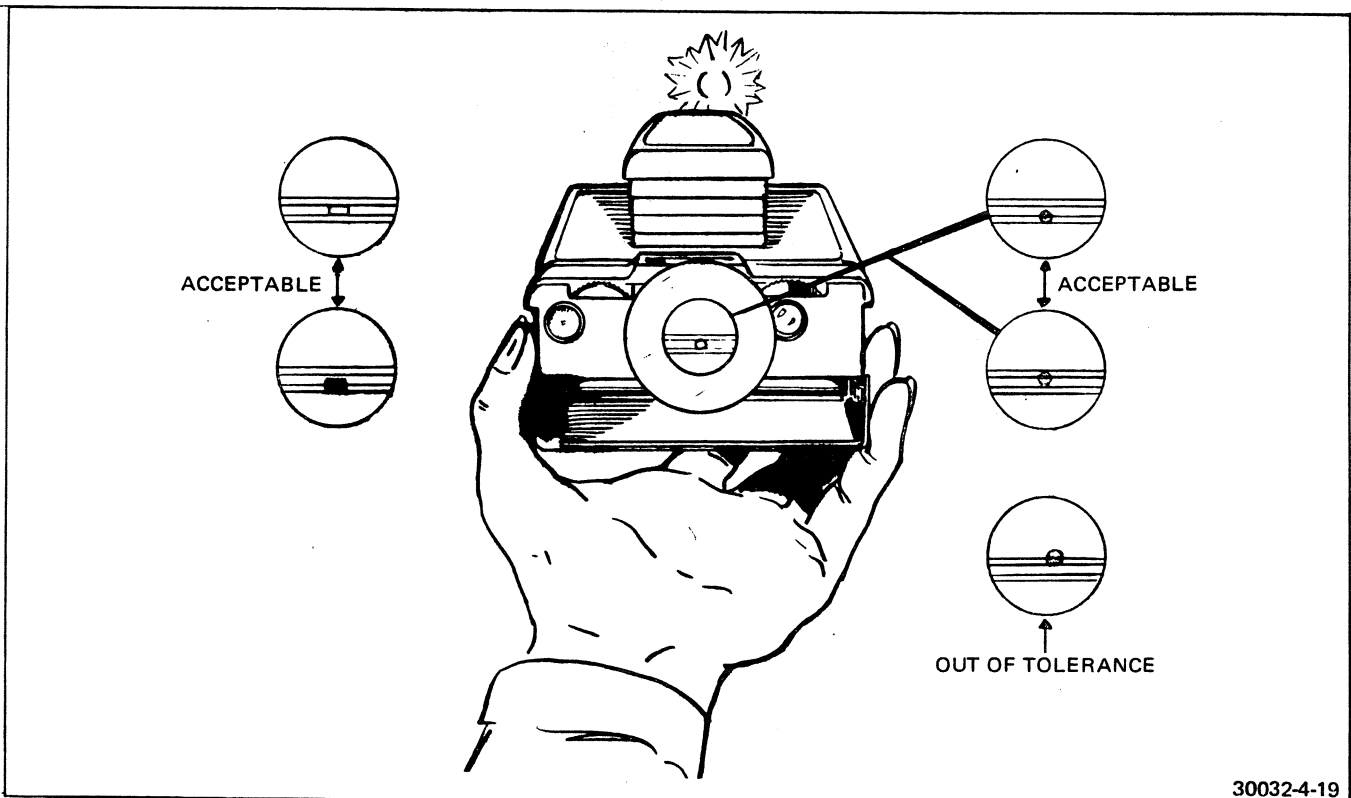

FIGURE 4-19 ENTRANCE PUPIL CHECK
5. Any time that the erecting link is disturbed for any reason, a stigmatic pupil adjustment must be performed. Adjust the entrance pupil in the manner described in paragraph 3B-14 (Figure 4-19).